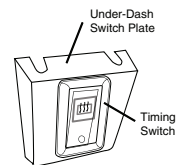

Figure 2
2. Run W-6 (Ribbon Cable) through the back of the switch plate and insert the four prong connector into the timing switch, peel away the release film and adhere to plate with the red LED pointing down (Fig. 2).